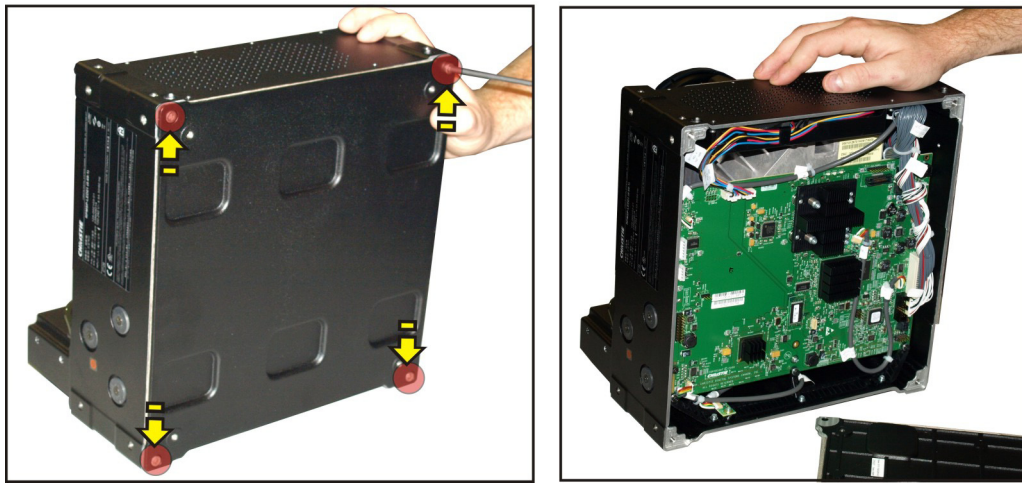

Figure 4-2 Remove PHM Back Plate
3. Loosen (4) 4 mm hex screws from the back plate of the PHM housing and remove the back plate (**Figure 4-2**).
5. Remove (1) 2.5 mm hex screw securing RTSM #2 to the FDWU/FDSP mounting bracket.
3. Loosen (4) 4 mm hex screws from the back plate of the PHM housing and remove the back plate of the PHM (**Figure 4-2**).
5. Remove (1) #1 Phillips ® screw securing RTSM #4 to the bottom-left corner of the DMD heat sink.